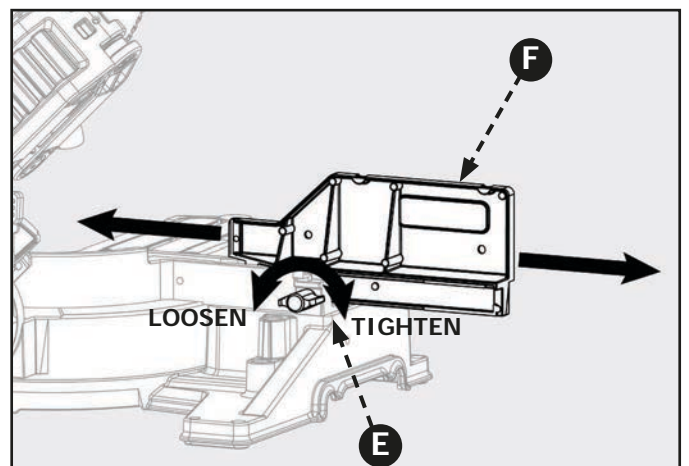

Figure 33
This saw is equipped with an adjustable extension fence. To extend or retract the fence refer to Figure 33 and follow these instructions: Loosen the lock knob (E) by rotating counterclockwise and the slide the fence (F) into the desired position. Make sure to re-tighten lock knob (E) by rotating clockwise.